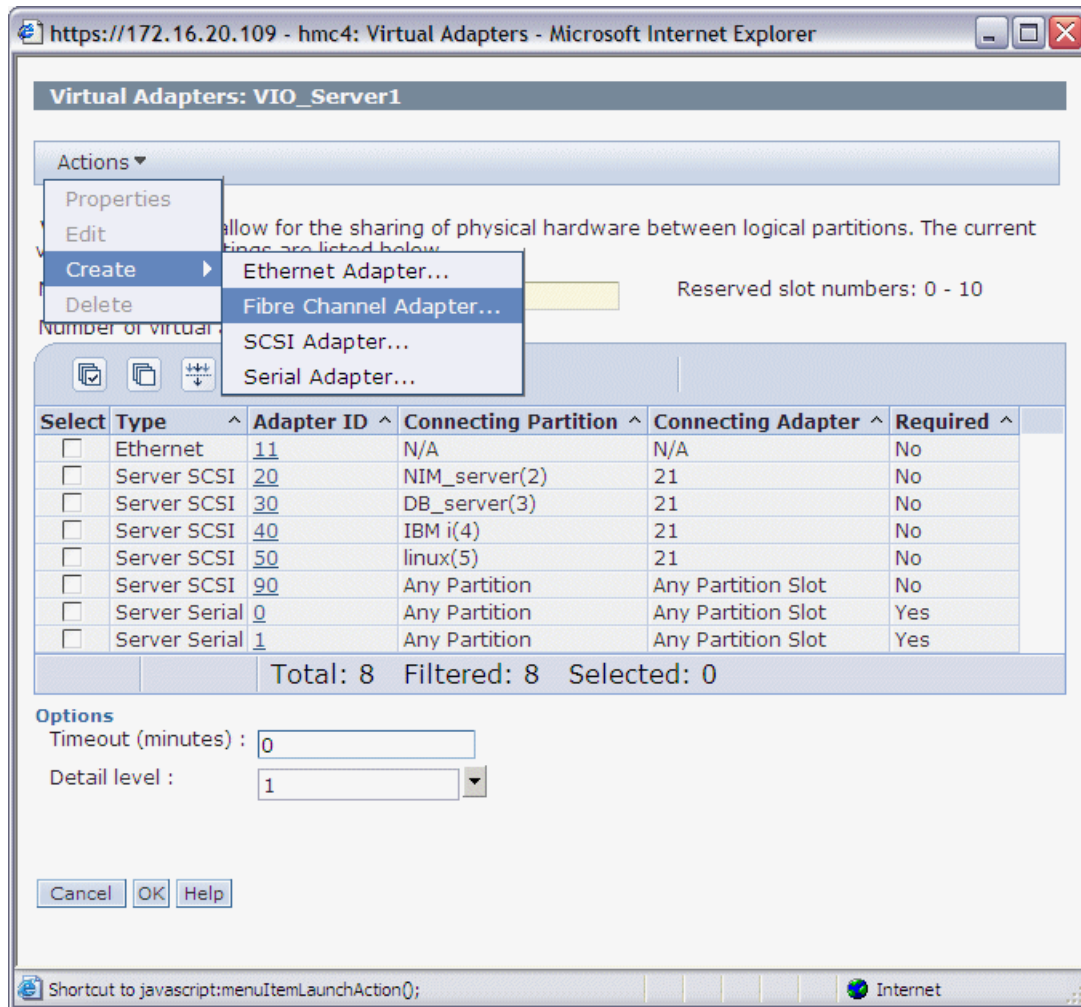

Figure 16-16 Create Fibre Channel server adapter
- c. To create a virtual Fibre Channel server adapter, select **Actions** → **Create** → **Fibre Channel Adapter...** as shown in Figure 16-16.